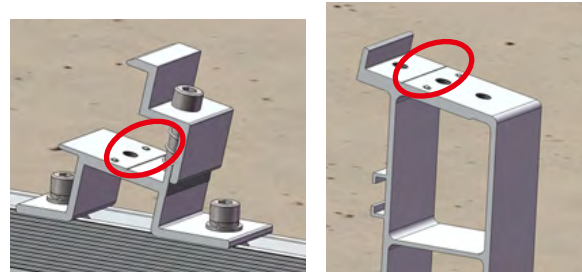

Figure 5.5G
5.5.3 Place the PV Modules on the Front and Rear Leg as shown in Figure 5.5F. The outside edge of the frame of the PV Modules must overlap the marking lines on the Front and Rear Legs as shown in Figure 5.5G. The pins of Front and Rear legs are used for creating earthing continuity from PV modules to both legs.